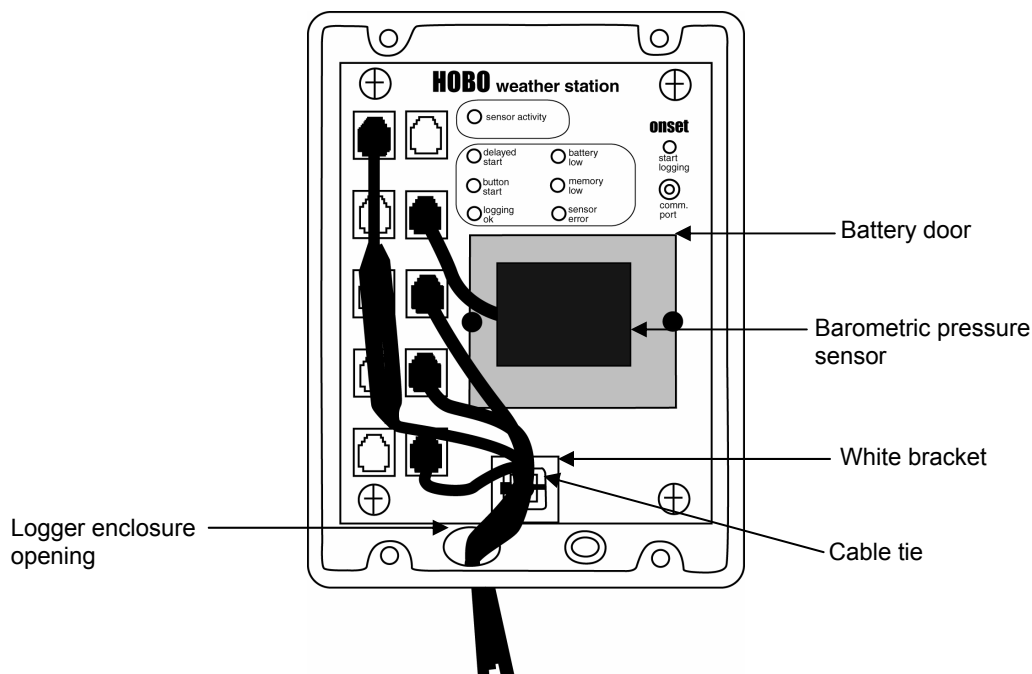

Figure 33: Logger with sensor cables attached
6. Neatly wrap all the sensor cables together using a cable tie, and secure the cables to the square, white bracket under the battery door (see Figure 33). Again, be careful not to bend the circuit boards in the cables.